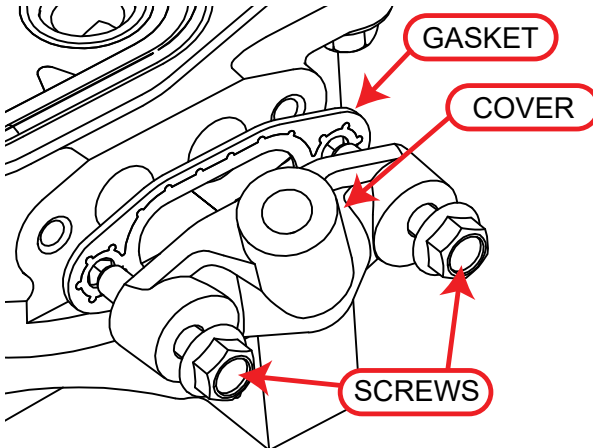

Figure 1 - Removing the oil port cover, retaining screws and gasket
4. Remove the two bypass cover flange screws with a 10 mm socket or wrench. Be sure to remove the factory gasket shown in Figure 1.